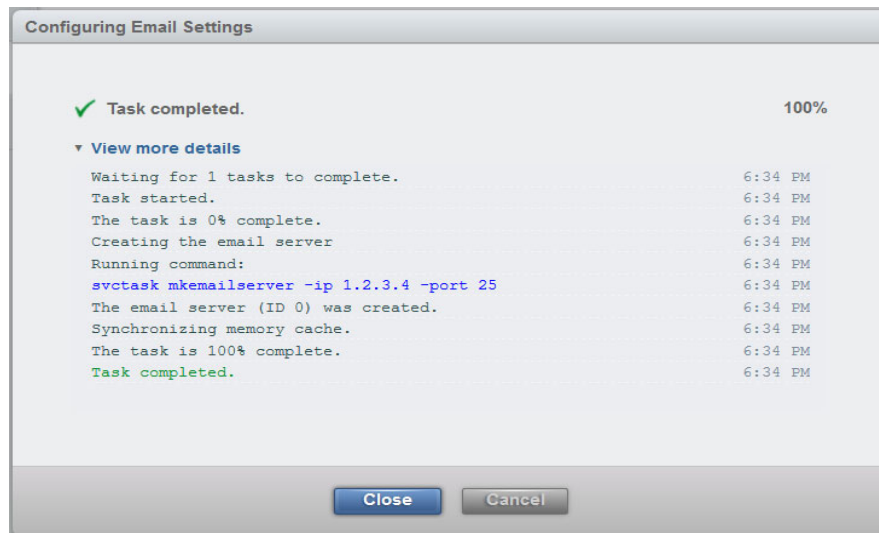

Figure 9-9 SMTP Gateway for all email is defined
- Results of the command are displayed in the window as shown Figure 9-9. Click **Close**.